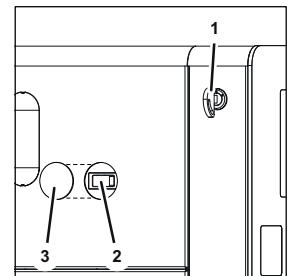

Fig. 5
1. Turn the key switch (Fig. 5/1) to position "0".
2. Remove the black cover cap (Fig. 5/3).
3. Turn the On/Off switch (Fig. 5/2) to position "0".